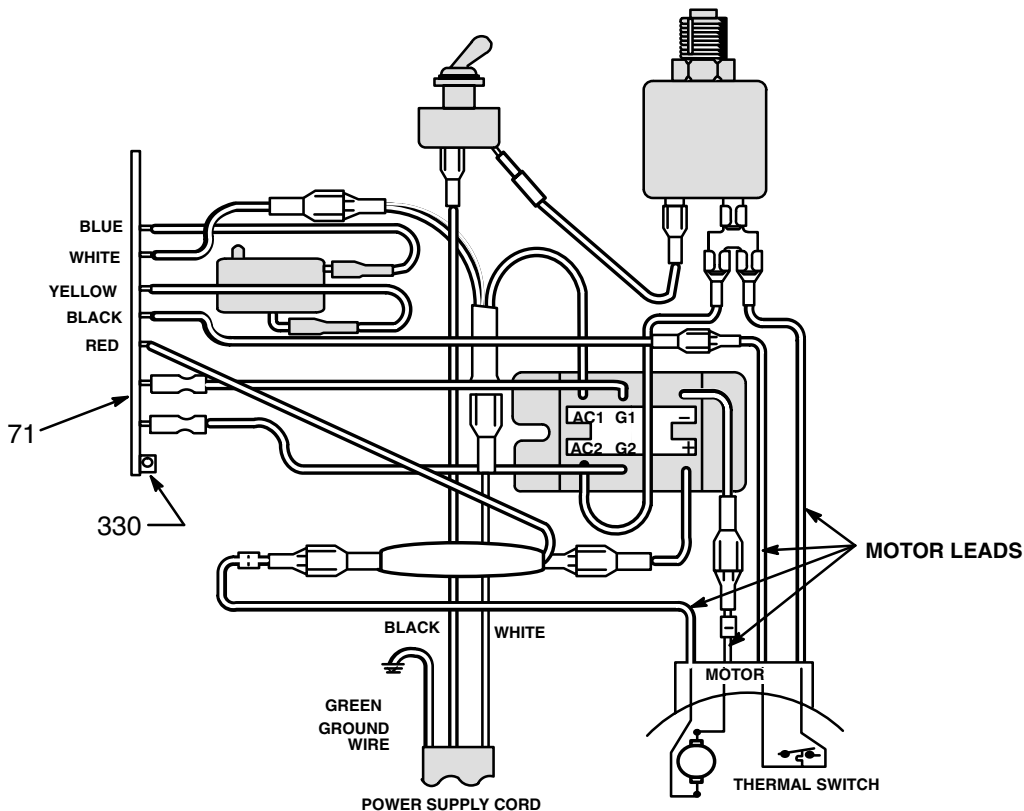

Fig 28-2
3. Disconnect ALL wires from the board, including the two heavy black wires. Pay close attention to where connections are made. Refer to Fig 28-2.
4. Pull out the black plastic-tipped pin (330). Push the bottom of the circuit board toward the wall of the control and carefully slide the board out.
6. Reconnect all wires. Refer to the wiring diagram in Fig 28-2. Ease the pin (330) into the retainer.
1. Disconnect the main fluid hose (101) and the secondary fluid hose, if used. Disconnect the fluid hose (70) at the displacement pump nipple (40) and the pressure control nipple (344).
2. Loosen the filter bracket nut (38).
3. Hold the hex of the pressure control adapter (341) firmly with a 3/4" open end wrench. Use an adjustable wrench to unscrew the swivel union (39), and then remove the fluid filter (66).
4. Remove the pressure control cover (63). Disconnect the four motor leads. Refer to Fig 28-2.
6. Remove the conduit (1).
7. Remove the three screws (8) and lockwashers (10) and nuts (11) located below the pressure control. Remove the pressure control.
8. Remove the screws (22) holding the back mounting bracket (64) to the pressure control.
9. Install the new pressure control assembly in the reverse order of disassembly. Reinstall the conduit seal (29) around the wires in the conduit connector (345) to prevent motor contamination from entering the control. See the DETAIL below.